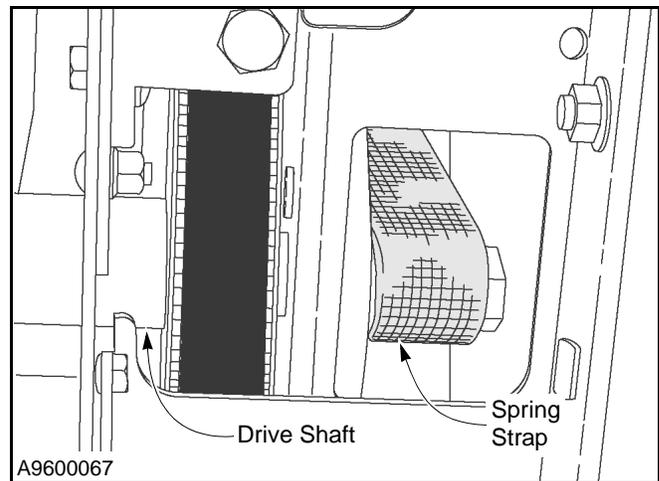

Figure 66
8. Then remove the steel plate and all associated hardware used to clamp the strap to the shaft. Save all hardware. (See Figure 66.)